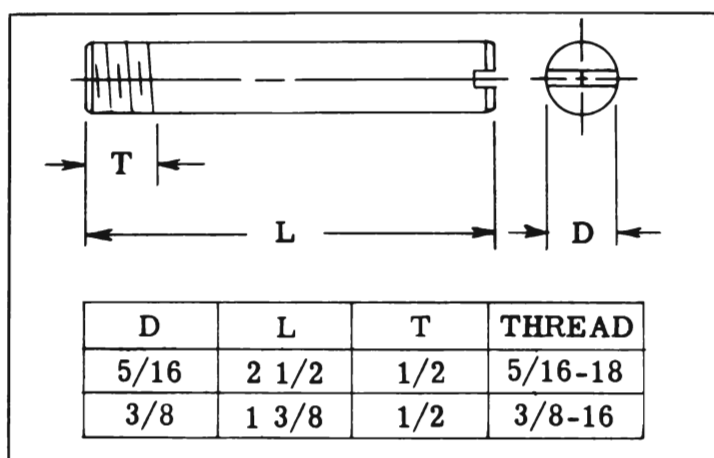
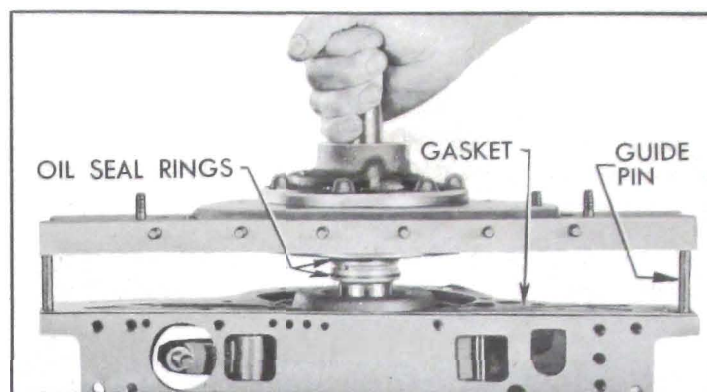

Figure 5-87—Guide Pins
Figure 5-95—Installing Reaction Shaft Flange and Gasket
6. Prepare two $\frac{5}{16}$ "x $2\frac{1}{2}$ " guide pins and two $\frac{3}{8}$ "x $1\frac{3}{8}$ " guide pins with screwdriver slot in plain end, as shown in figure 5-87. These will be used for alignment of parts during assembly.
1. Install a $\frac{5}{16}$ " guide pin (fig. 5-87) in accumulator bolt hole at each end of flange on transmission case. See figure 5-95.
4. Make certain that oil seal rings are on flange hub, then install flange assembly on case using care to avoid damaging oil seal rings. See figure 5-95.
2. Install two 5/16" guide pins (fig. 5-87) in transmission case to guide each end of servo body, and install servo body spacer plate gasket over guide pins.
11. Install a $\frac{5}{16}$ " guide pin (fig. 5-87) at each end of transmission case and install a new oil pan gasket over guide pins. Install oil screen.